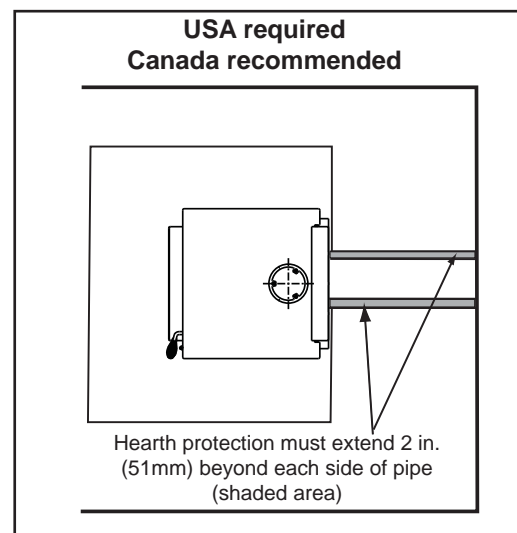

Figure 31.4
***EXCEPTION:** Non-combustible floor protections must extend beneath the flue pipe when installed with horizontal venting and extend 2 inches (51mm) beyond each side. **Figure 31.4.**